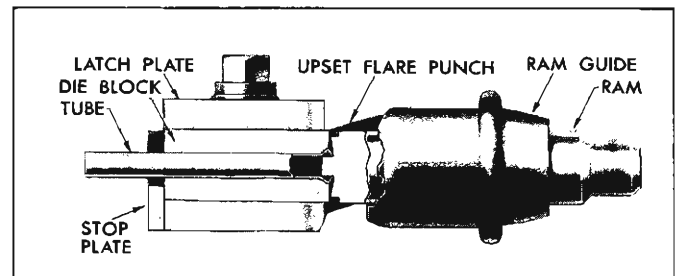

Fig. 11—Flaring Operation—First Flare
6. Using the supplied wrench, draw the latch plate nut down tight to prevent the tube from slipping. Tightening the nuts alternately (beginning with the nut at the closed hole in the plate) will prevent distortion of the plate. Remove the punch and the ram. Now reverse the punch and put it back into the tool body. Install the ram and tap it lightly until the face of the upset flare punch contacts the face of the die blocks (fig. 11). This completes the first operation. Remove the ram and the punch.